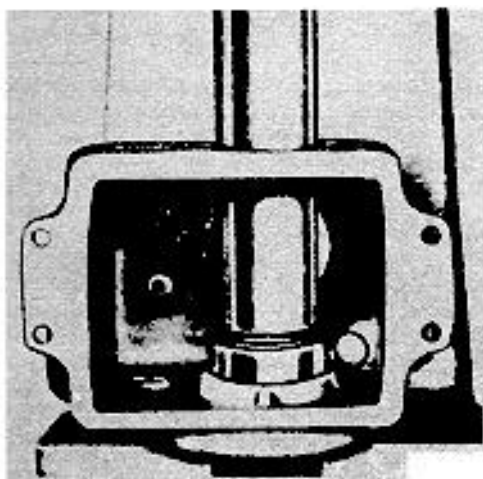

Figure 15
1. Install rear main bearing by pressing it into cylinder block with shielded side facing to inside of block. Figure 15.